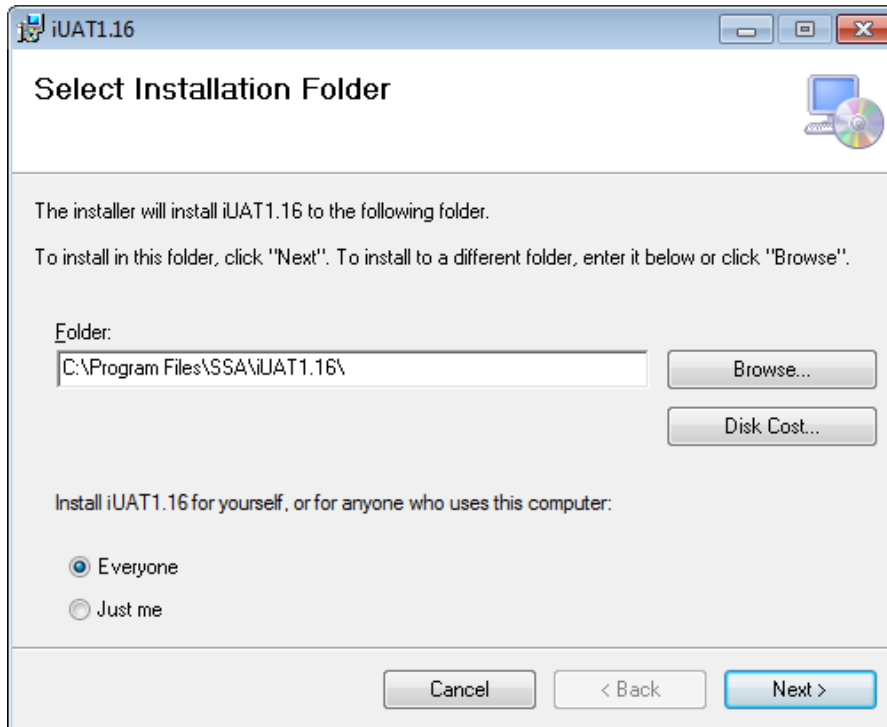

Figure 5: Specify the installation folder
6. You can specify the installation folder by clicking on the “Browse” button and select new location (Figure 5), or click “Next” to use the default folder.